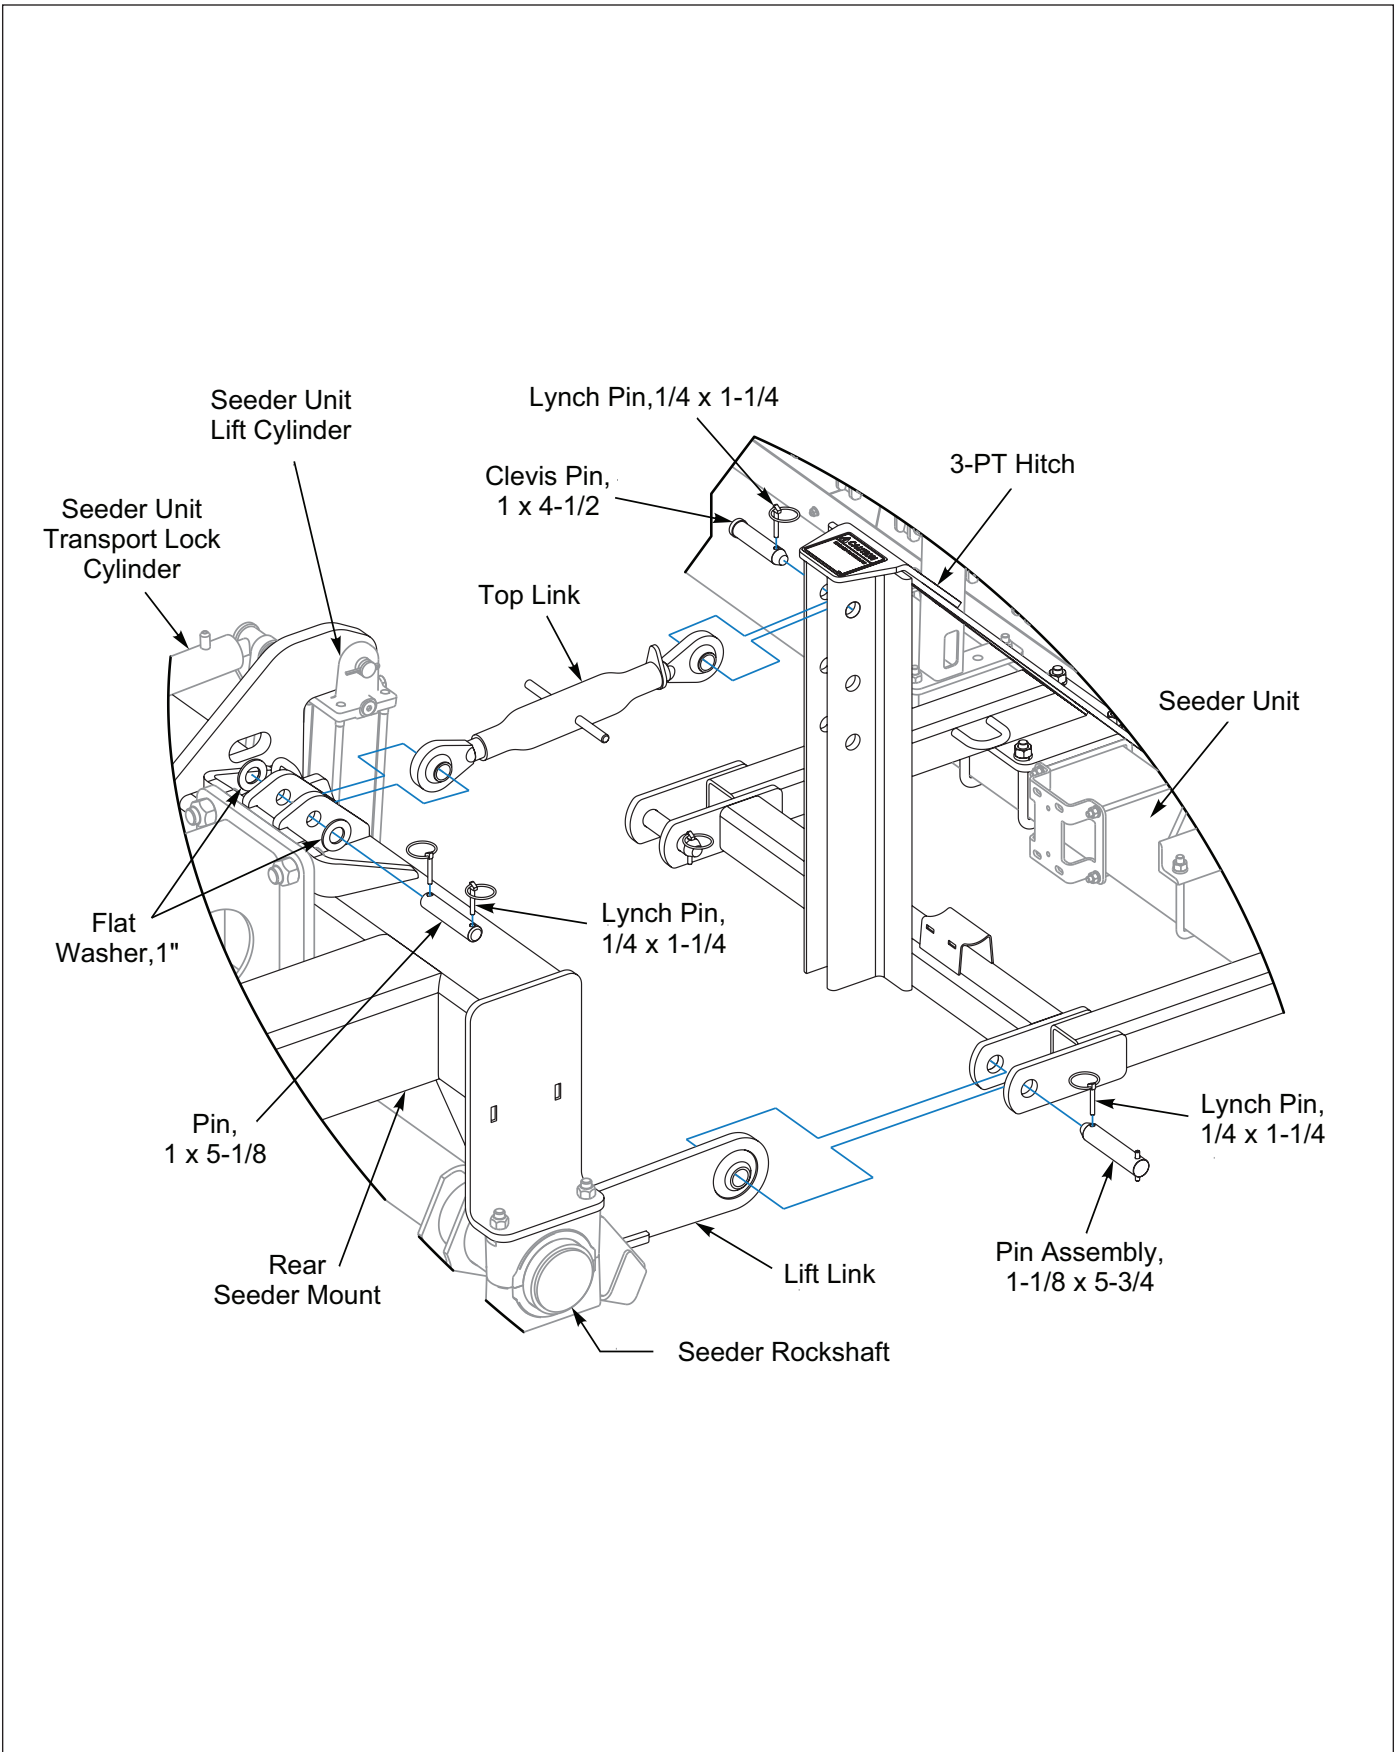

Figure 2-25: Attach the Seeder Assembly with Top Link
13. Attach the Top Link to the Folding Seeder Lugs with 1 X 5-1/8 Pins, Flat Washers and 1/4 x 1-1/4 Lynch Pins. See Figure 2-25.